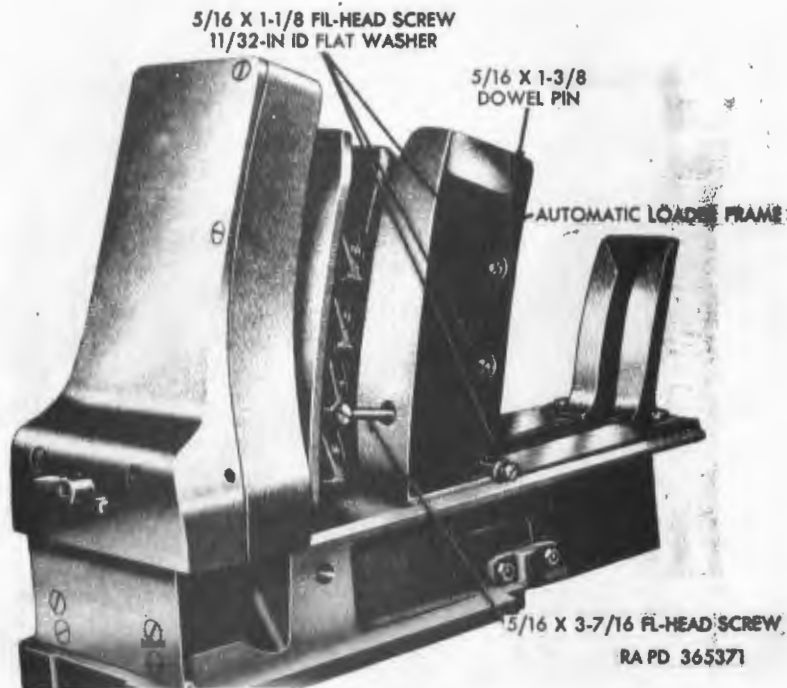

Figure 328. Removal of stop pawl holder attaching screws.
- (6) Observe whether any of the stop and feed pawls or springs are broken. To replace a broken pawl or weak or broken spring, proceed as outlined in (a) through (h) below:
- (a) Remove the loader tray ((4) above).
- (b) Remove the three fillister-head screws (fig. 328) and flat washers which retain the stop pawl holder, tap out the dowel pin, and withdraw the stop pawl holder assembly.
- (h) Position the stop pawl holder assembly in automatic loader frame and secure with $\frac{5}{16}$ x $1\frac{3}{8}$ dowel pin (fig. 328), three $\frac{5}{16}$ x $1\frac{1}{8}$ fillister-head screws, and three $\frac{1}{32}$ ID-inch flat washers.
- (7) Check operation of feed pawl holder assembly and feed rod spring. Observe whether any of the feed pawls are broken and whether any feed pawl springs are weak or broken. To replace a stop and feed pawl or spring, proceed as in (a) through (h) below.
- (a) Unscrew and remove the flat-head screw (fig. 328) which retains the feed rod assembly.
- (h) Position feed rod assembly in automatic loader frame and secure with $\frac{5}{16}$ x $3\frac{7}{16}$ flat-head screw (fig. 328).
- (8) To replace a feed pawl holder assembly, proceed as outlined in (a) through (f) below.